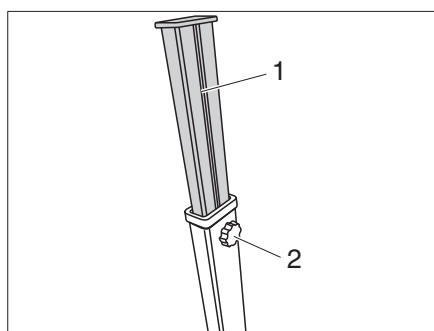

Fig. 34 Adjusting the table feet
- Open the star screw (Fig. 34,2) of the respective table foot and pull out the extension (Fig. 34,1).
- Tighten the star screw (Fig. 34,2) once the desired extension has been reached.
- Push the extension (Fig. 34,1) on all of the table feet and secure into place with the star screw (Fig. 34,2).